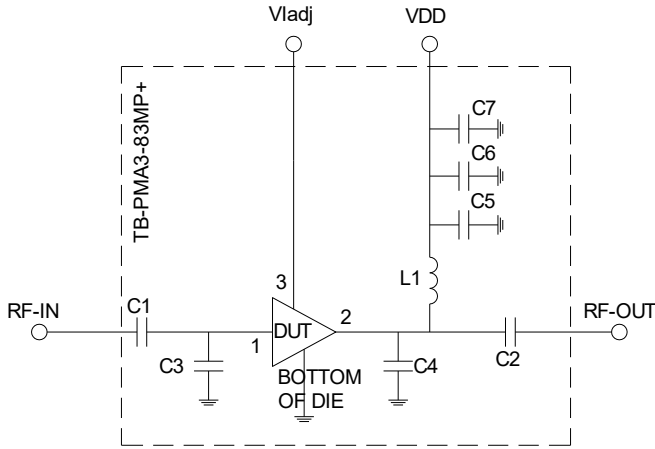

Fig 1. Application and Characterization Circuit
1. Die is soldered in 3x3mm 12L MCLP and measured on Mini-Circuits Characterization Test Board TB-PMA3-83MP+. See Characterization Test & Application Circuit (Fig. 1)